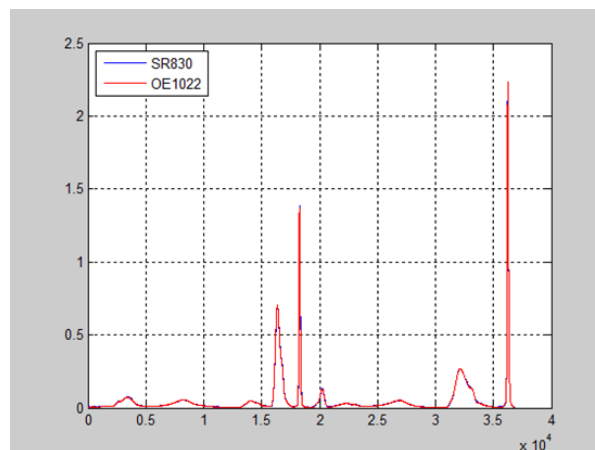

Fig.105 The Contrast Spectrum Chart between SR830 and OE1022
5. Change the OE1022 to the SR830. Repeat the steps above to run the same experiment. Then you will get another spectral image as is shown in Fig.105. You can see that these two images are almost the same.